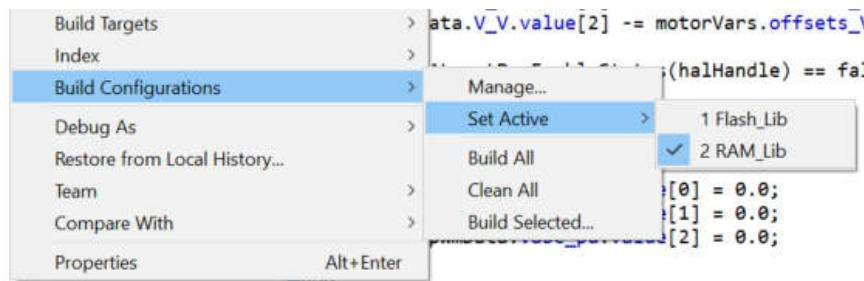

Figure 14: Selecting a RAM Build Configuration for is01_intro_hal
2. Project “is01_intro_hal” can be configured to run from FLASH or RAM. To change the build configuration, right-mouse click on is01_intro_hal in the Project Explorer pane and select “Project->Build Configuration->Set Active”. From this window, select the configuration needed for the current build: “2 RAM_Lib” to run code from RAM, or “1 Flash_Lib” to run from FLASH. Alternatively, select “Project->Build Configuration->Manage...” to create a new build configuration. **Figure 14** illustrates selecting a RAM build configuration.